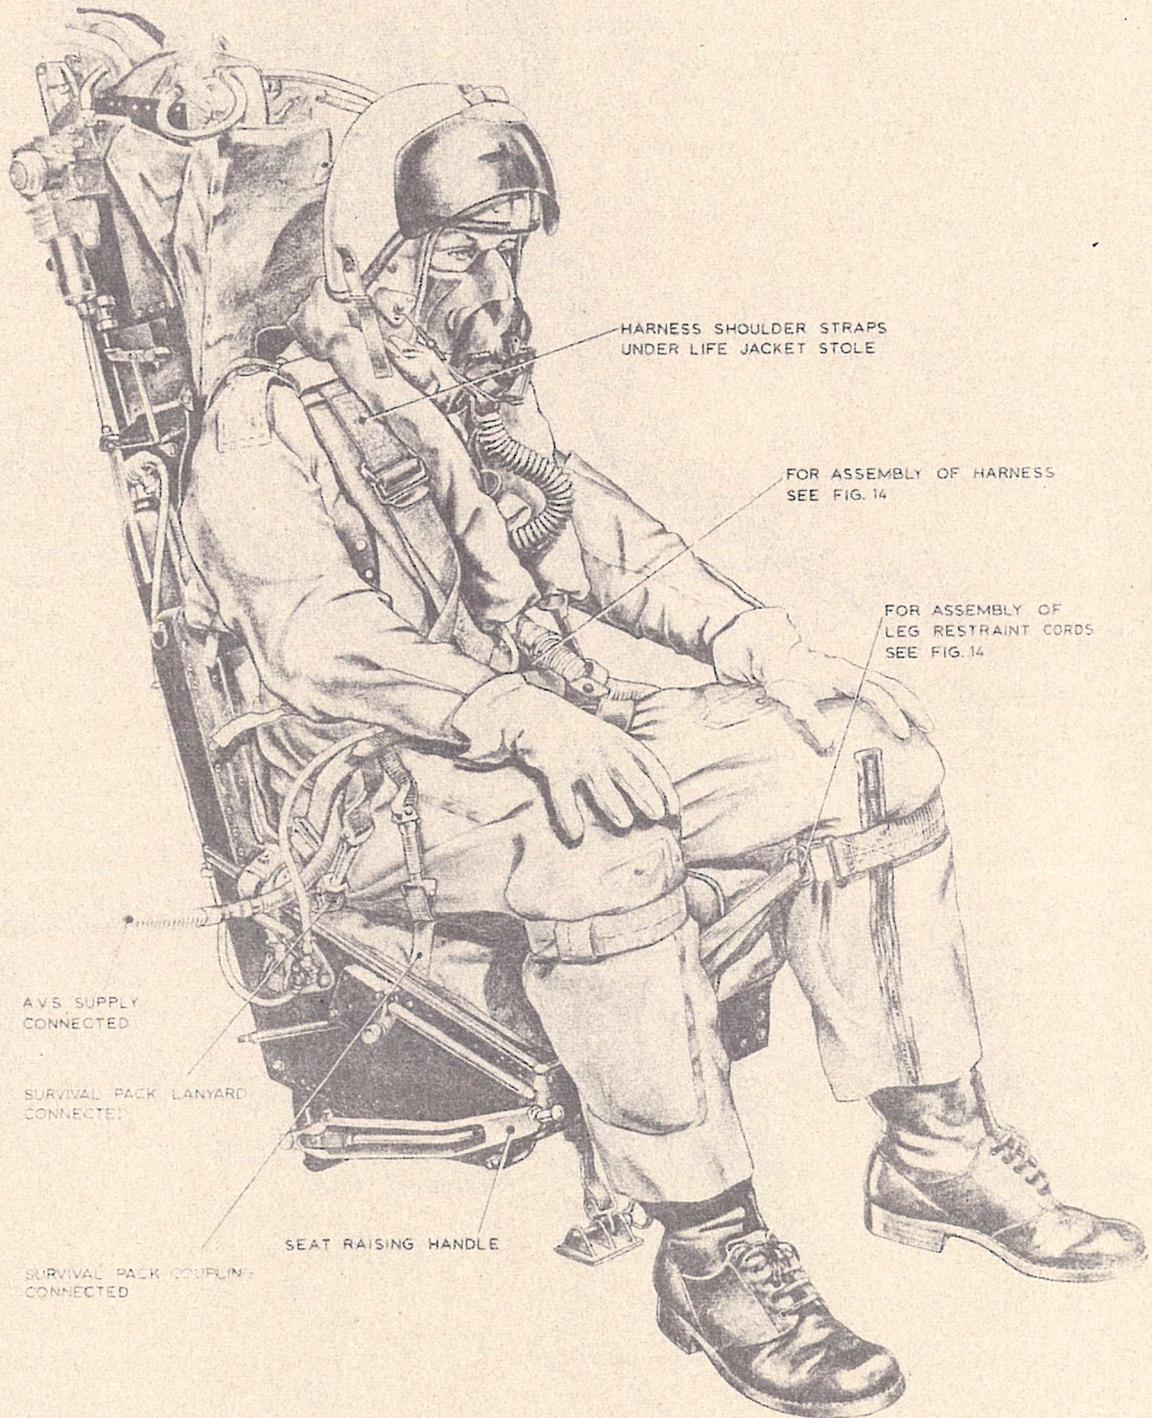

Fig. 15. The Mk. 3CT seats occupied (1)
- (21) Connect the emergency oxygen upper tube assembly (right side) to the oxygen mask tube.
- (22) Connect the Mic/Tel lead and the A.V.S. supply hose (when an A.V.S. is worn) (fig. 15).
- (23) Reach upwards and check that the main firing handle is within reach; DO NOT PULL.
- (24) Fit the oxygen mask and conduct pre-flight oxygen checks.
- (25) With assistance from a ground crew member, if available, remove the main and alternative firing handle pins and stow (this operation is delayed until immediately before flight with all crew members fully strapped in).
- (26) Swing the instructor's seat forward and lock in the flight position.
- (27) The instructor straps in as described in operations (1) to (25).